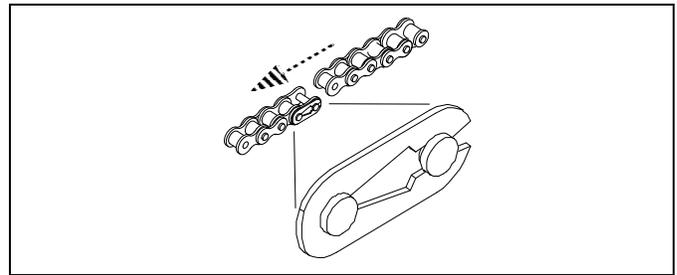

Figure 30
**Refer to Figure 30 (arrow shows chain direction)**